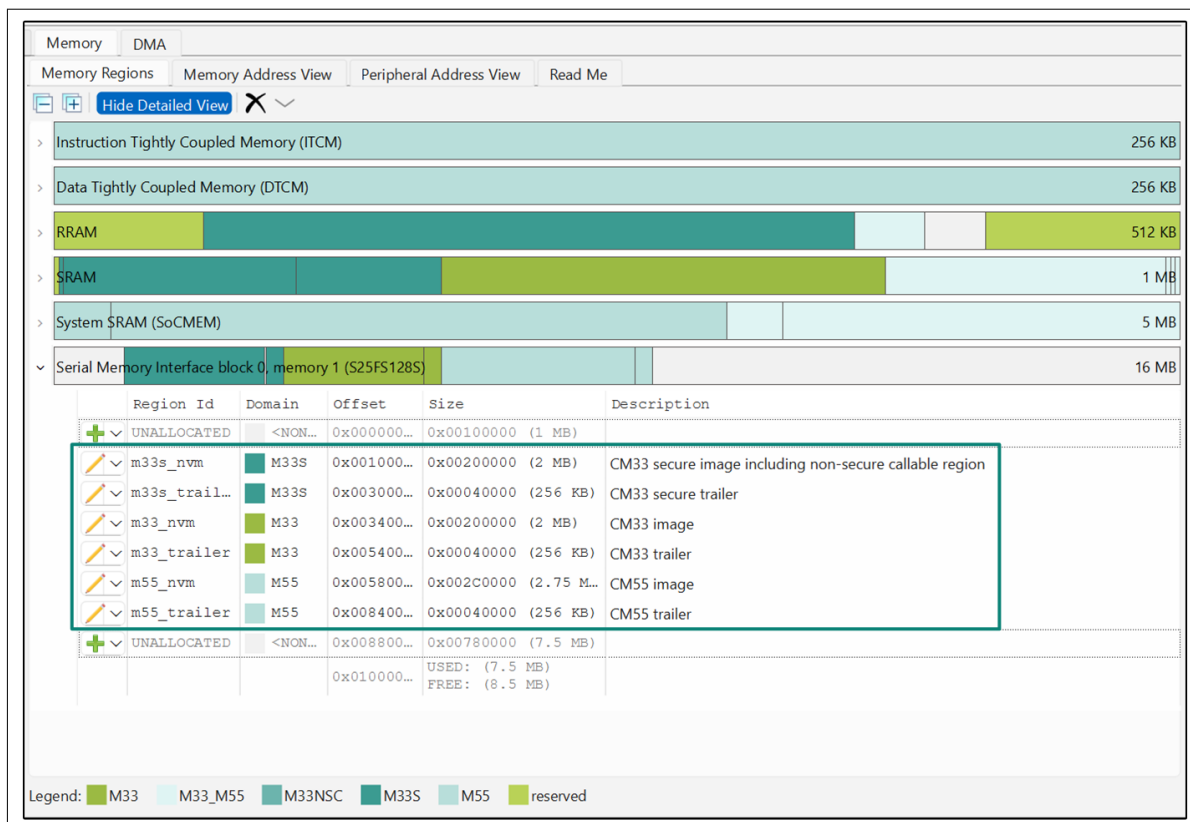

Figure 14 Default memory layout for external flash
2. Notice in Figure 14 that the external flash memory listed under Serial Memory Interface Block 0 (SMIF0) allocates the memory regions for CM33 secure project (m33s_nvm), CM33 non-secure project (m33_nvm) and CM55 project (m55_nvm) along with other accompanying memory regions. We shall move all of these regions to the RRAM section by deleting the memory regions in SMIF0 and creating the new regions with the same region name in RRAM section. Keeping the same memory region names will help us to use the default linker scripts of the BSP.